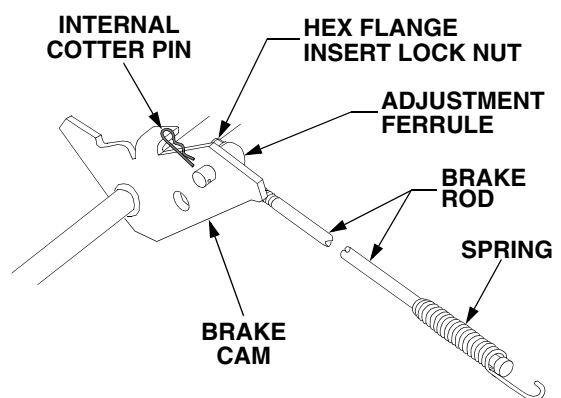

Figure 12
To adjust the braking force proceed as follows (Refer to Figure 12):
- Remove the internal cotter pin from the brake rod adjustment ferrule and withdraw the ferrule from the brake cam. See Figure 12.